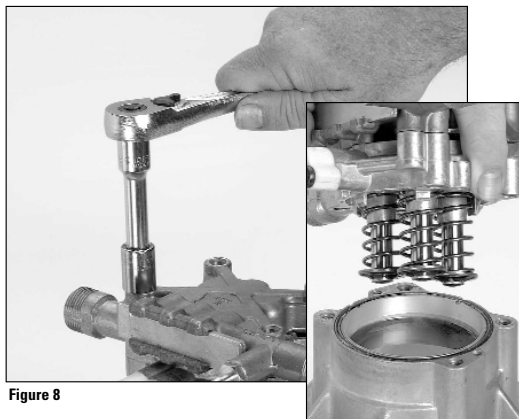

Figure 8
1. Remove water inlet housing with socket wrench (4 bolts). (figure 8)
2. Remove piston housing. (figure 8 inset)